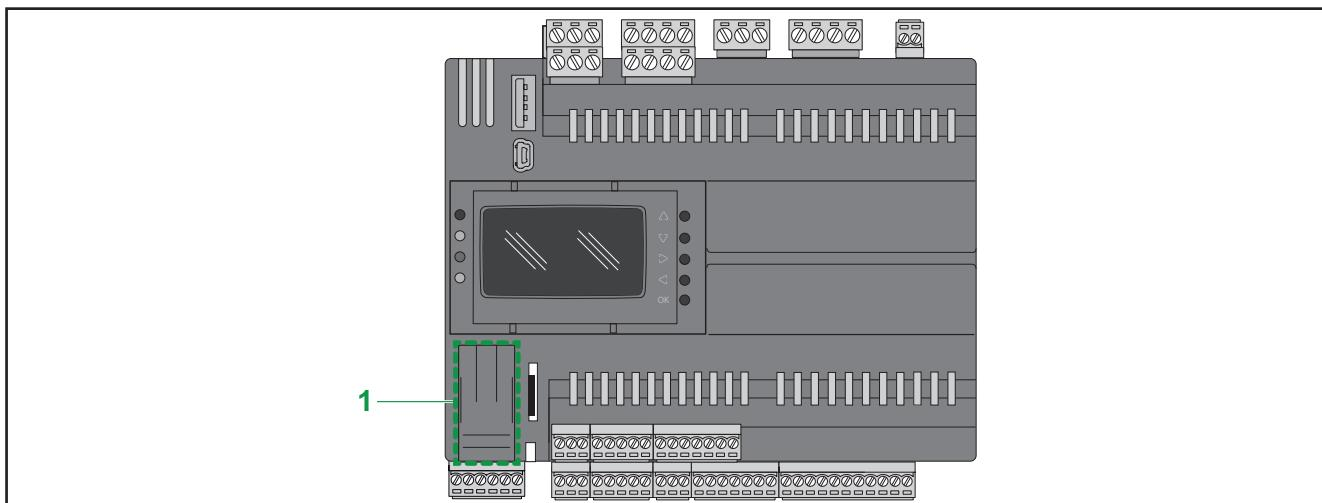

Fig. 50. EWCM 9000 PRO (HF): Battery flap
EWCM 9000 PRO (HF) CO2 compressor rack controllers have a removable door (see 1 in Fig. 50 on page 75) located on the lower left-hand side of the front panel. A battery compartment and 5-pole male connector (reserved) can be found behind the flap. To replace the internal battery, contact the Eliwell technical support department.